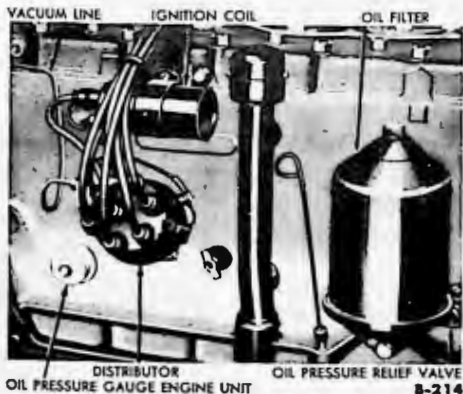

Fig. 1—Left Side View of Engine
a. Ignition. The distributor used on both the "H" and "M" engines is mounted on the left side of the engine (fig. 1) and driven off the oil pump driven gear. Description and ignition timing of these distributors are given under subject 12000.